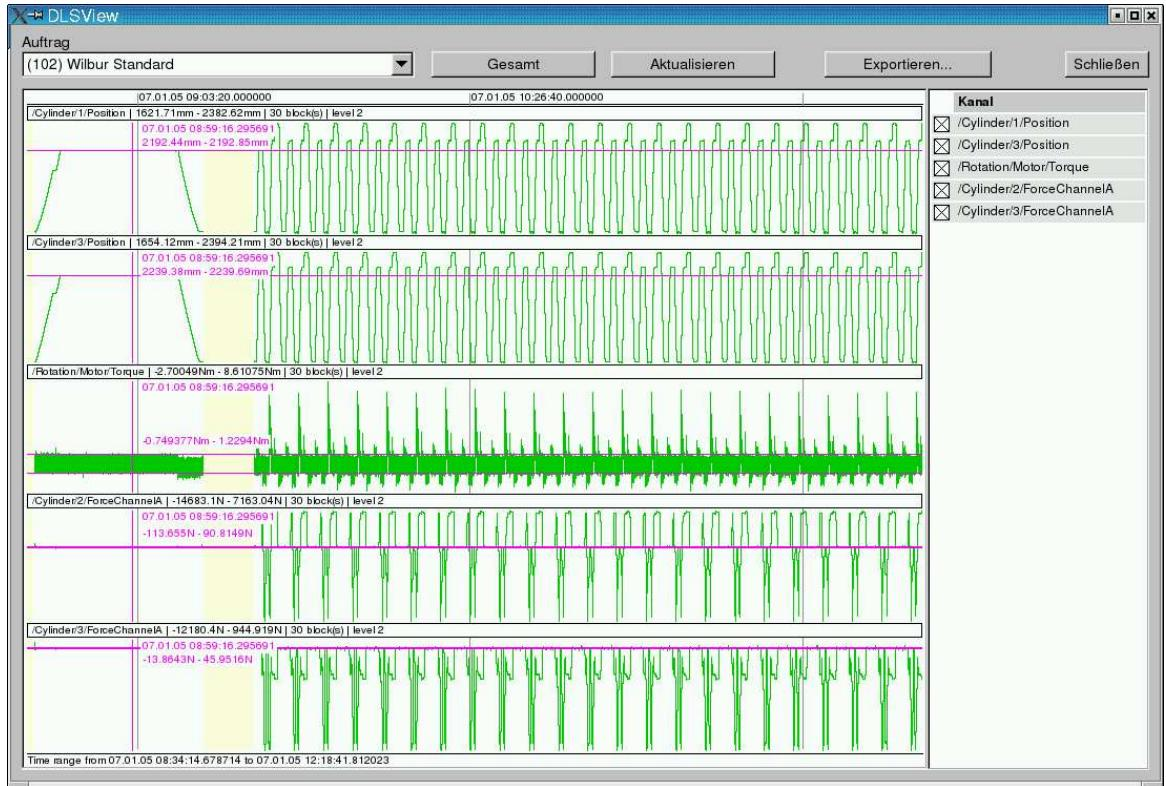

Figure 5.2.: Scan lines with the *Ctrl*button held down
- If no data were acquired in a certain time span, this zone of the channel line concerned is displayed with a yellow background (see Figure 5.2).
- If the data area has the keyboard focus, pressing the *Ctrl* button will draw a vertical “scan line” at the point in time to which the mouse cursor points (see Figure 5.2). If this line crosses a displayed curve, the data value at the point of intersection will be displayed.
As the scan line is not infinitely narrow, possibly many data values will fall in the area covered by it. In this case the entire value area of the values that are present “under” the scan line will be marked by two horizontal lines corresponding to the minimum and maximum (see 3rd channel in Figure 5.2).